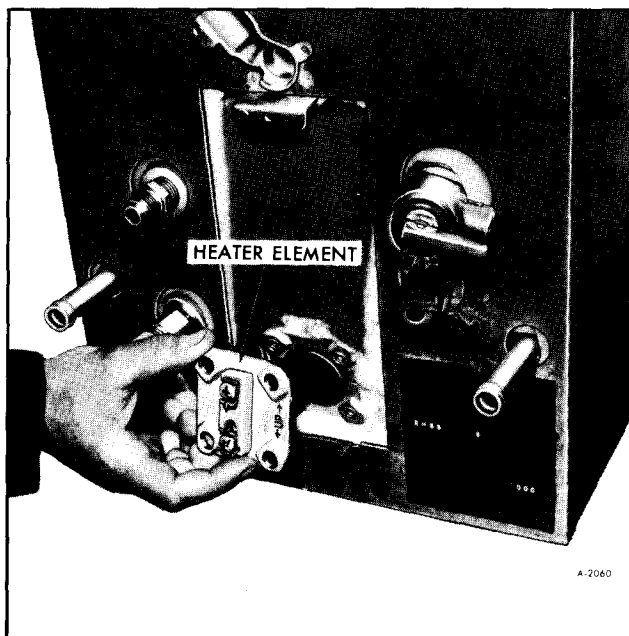

Figure 41—Installing Heater Element
3. Install heater element in the direction specified by the word UP, as shown in Figure 41.